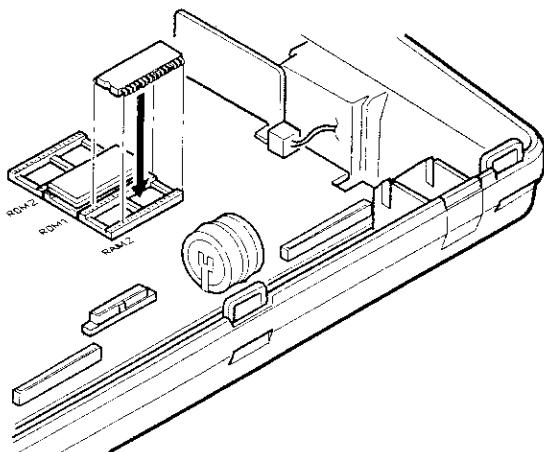

Fig. 1
- 2) Insert the expansion RAM chip onto the socket RAM2 on the main PWB. (Fig. 1, 2)
The number of pins are different between the ER-01RA (28 pins) and the ER-02RA (32 pins). Observe the correct position for insertion of the chip. (Fig. 1, 2)